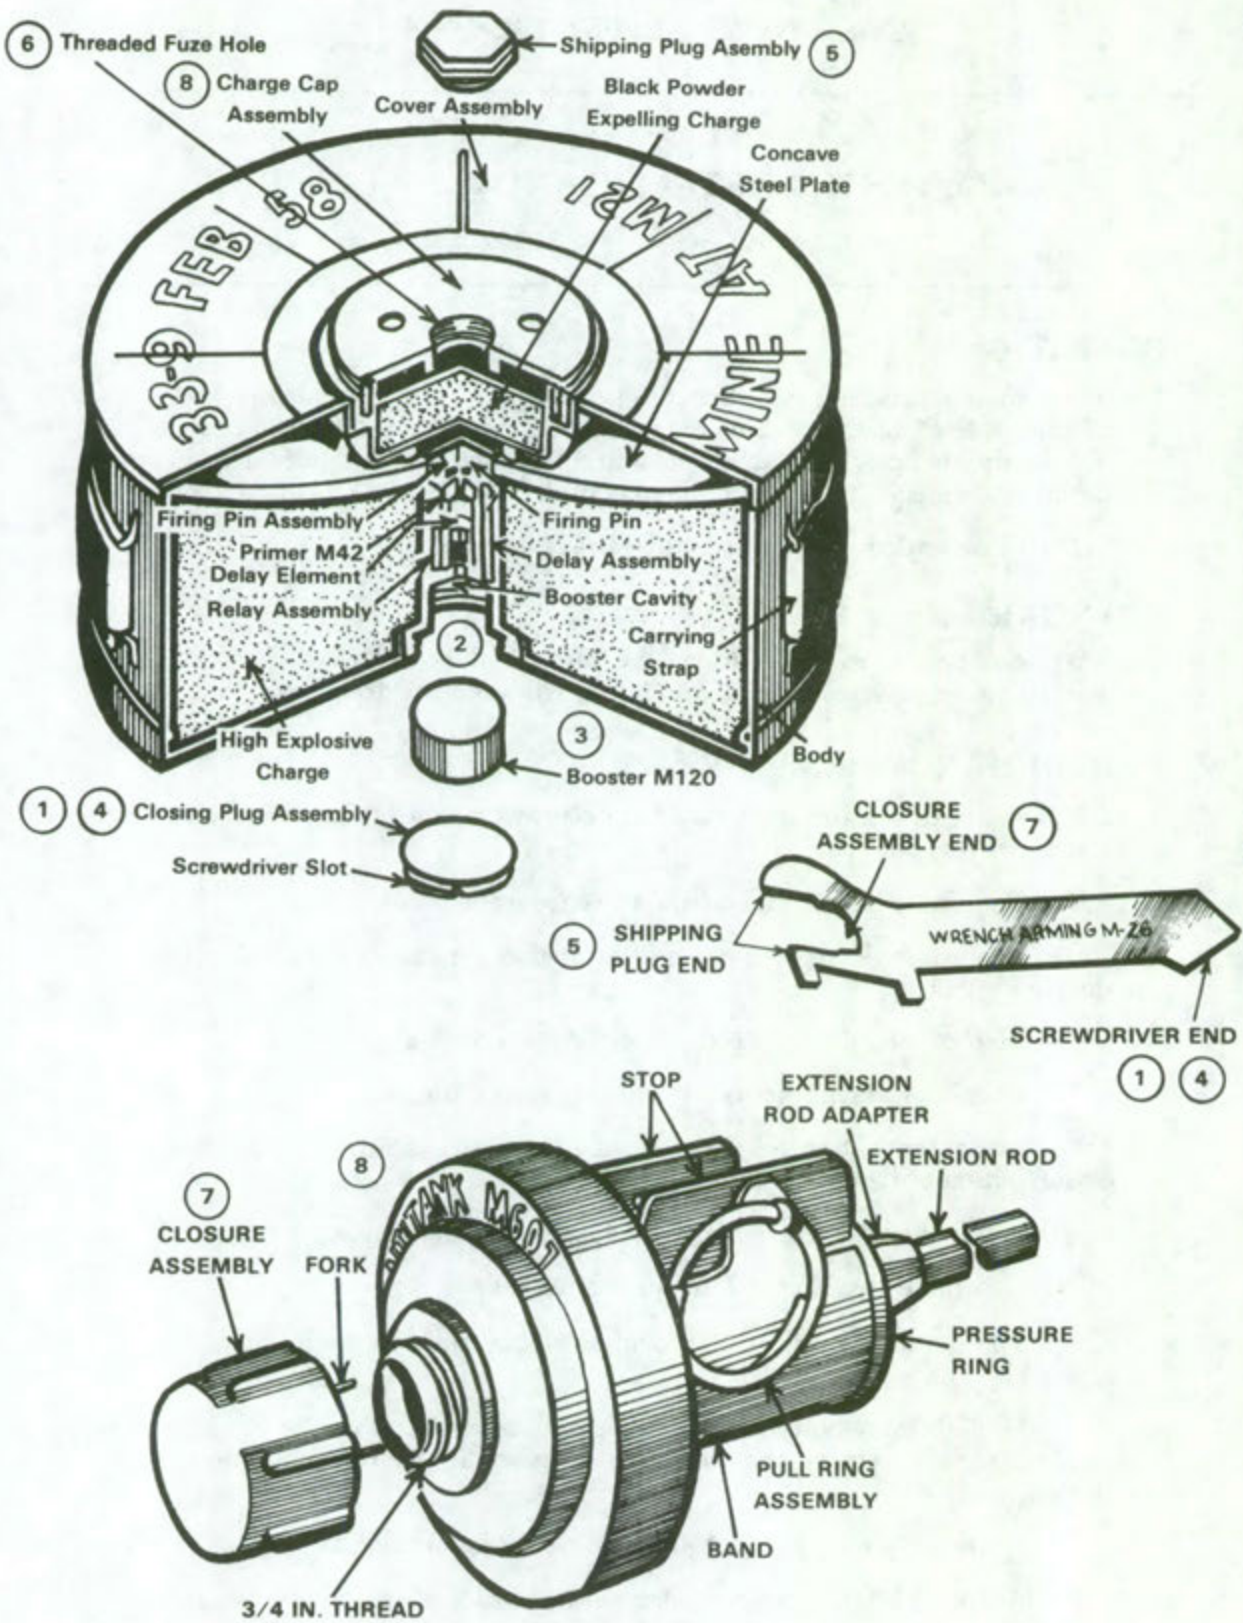

Figure 1.
- a. The numbers of steps 1 through 8 below relate to the numbers in figure 1.
- (1) Turn mine bottom up and, with the screwdriver end of the M26 arming wrench, remove the closing plug assembly by turning counter-clockwise.
- (2) Inspect booster cavity and remove foreign material.
- (3) Insert M120 booster, washer side toward the fuze, into the booster cavity.